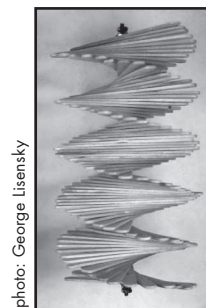

Figure 1. Model showing orientation of layers.
Cholesteric-phase liquid crystals contain molecules aligned in layers (1) rotated with respect to one another (Figure 1, p 1360B). The rotation angle from one layer to the next increases with temperature, so the distance between layers with the same orientation, called the pitch, decreases with temperature. The helical structure selectively diffracts light (2) according to the Bragg condition modified by Snell's Law (3), $\lambda = np(1 - \cos^2\theta/n^2)^{1/2}$ where λ is the reflected wavelength, n is the mean refractive index (~ 1.5 for these materials), p is the pitch, and θ is the angle with respect to the surface. Squeezing these soft materials changes the spacing between molecules, changing the reflected color.
In the liquid crystals you will use there are mixtures of long, thin molecules related to cholesterol that align parallel to one another in layers. The alignment of molecules in one layer is at an angle to that in the next layer. The orientation of the layers approximates a helix (Figure 1) similar to DNA, a spiral staircase, or a screw. The angle between layers increases with temperature, changing the *pitch*, the distance between layers that have the same orientation. The wavelength of light reflected by the liquid crystal is approximately equal to the pitch, so changing the temperature changes the color reflected by cholesteric liquid crystals. Thus liquid crystals can be used as sensors that can map regions of different temperature. In this Activity, you will create a liquid crystal "sandwich", and investigate its properties.